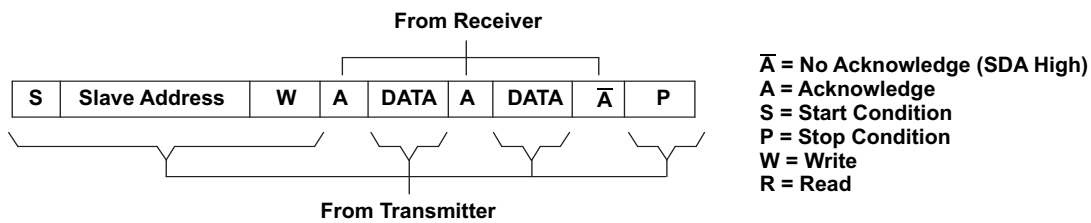
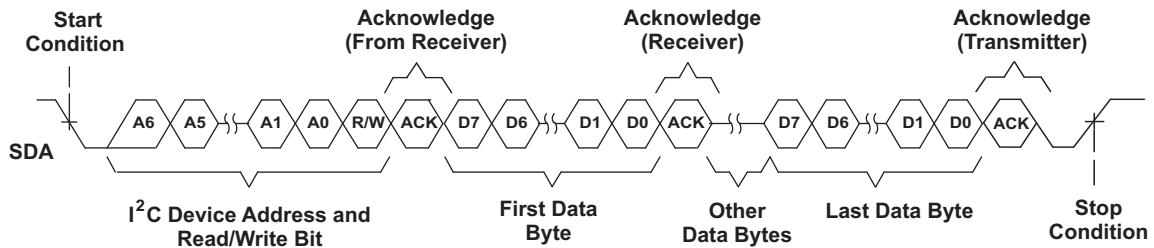
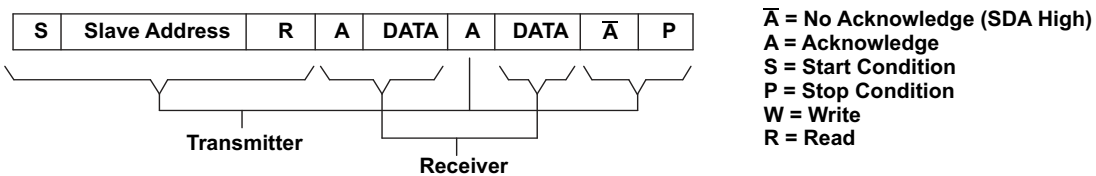
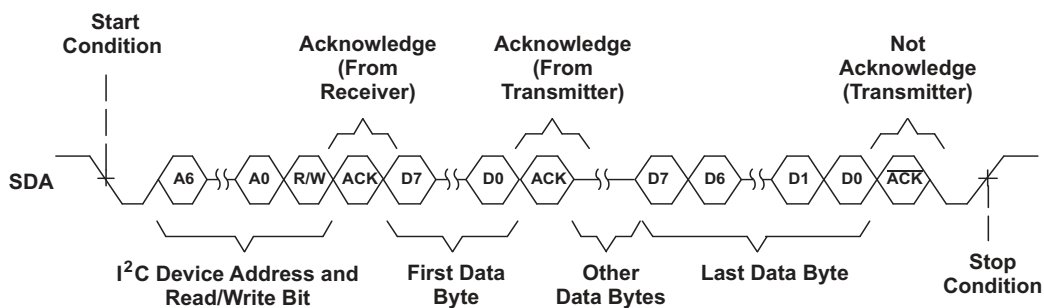

Figure 13. I2C Write Cycle
Figure 14. Multiple Byte Write Transfer
Figure 15. I2C Read Cycle
Figure 16. Multiple Byte Read Transfer
During a write cycle, the transmitting device must not drive the SDA signal line during the acknowledge cycle, so that the receiving device may drive the SDA signal low. After each byte transfer following the address byte, the receiving device pulls the SDA line low for one SCL clock cycle. A stop condition is initiated by the transmitting device after the last byte is transferred. An example of a write cycle can be found in Figure 13 and Figure 14. Note that the THS7327 does not allow multiple write transfers to occur. See the *Example— Writing to the THS7327* section for more information.
During a read cycle, the slave receiver acknowledges the initial address byte if it decodes the address as its address. Following this initial acknowledge by the slave, the master device becomes a receiver and acknowledges data bytes sent by the slave. When the master has received all of the requested data bytes from the slave, the not acknowledge (A) condition is initiated by the master by keeping the SDA signal high just before it asserts the stop (P) condition. This sequence terminates a read cycle as shown in Figure 15 and Figure 16. Note that the THS7327 does not allow multiple read transfers to occur. See the *Example— Reading from the THS7327* section for more information.
The THS7327 operates using only a single byte transfer protocol similar to Figure 13 and Figure 15. The internal subaddress registers and the functionality of each are found in Table 2. When writing to the device, it is required to send one byte of data to the corresponding internal subaddress. If control of all three channels is desired, then the master has to cycle through all the subaddresses (channels) one at a time, see the *Example— Writing to the THS7327* section for the proper procedure of writing to the THS7327.